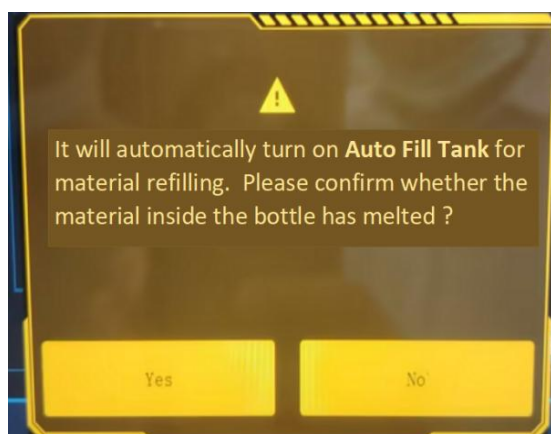

fig. 3-21 Auto-fill tank prompt
- Pull out Material drawer, verify material is full melting and tap **Yes** for material Auto-filling, as shown in figure 3-21.